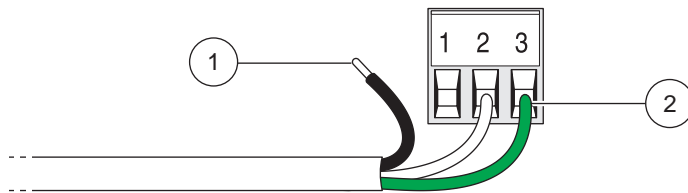

Figure 11 Wire Preparation and Insertion
5. Strip the insulation on the cable back 1-inch. Strip ¼-inch of each individual wire end (Figure 11 on page 19)